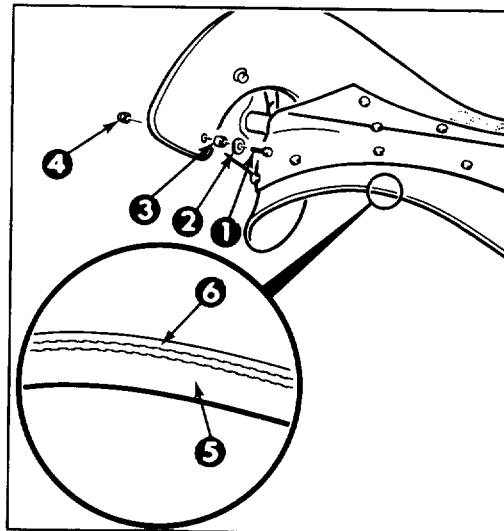

Figure 19
1. REMOVING BLADE (Fig. 19) — Remove (8) 7/16" bolts, (4) washers, and (8) locknuts securing blade to rotor shaft assembly.
2. Slide the blade out from between the steel plates and push the (8) bushings out of the blade holes (Fig. 19).
3. INSTALLING NEW BLADE — The rotor blades are made of laminated rubber. Examine the edge of a blade to see the difference in layer thicknesses (Fig. 19). (Some blades have a part number on the thick side of the blade.) Both blades must be installed with the thick side